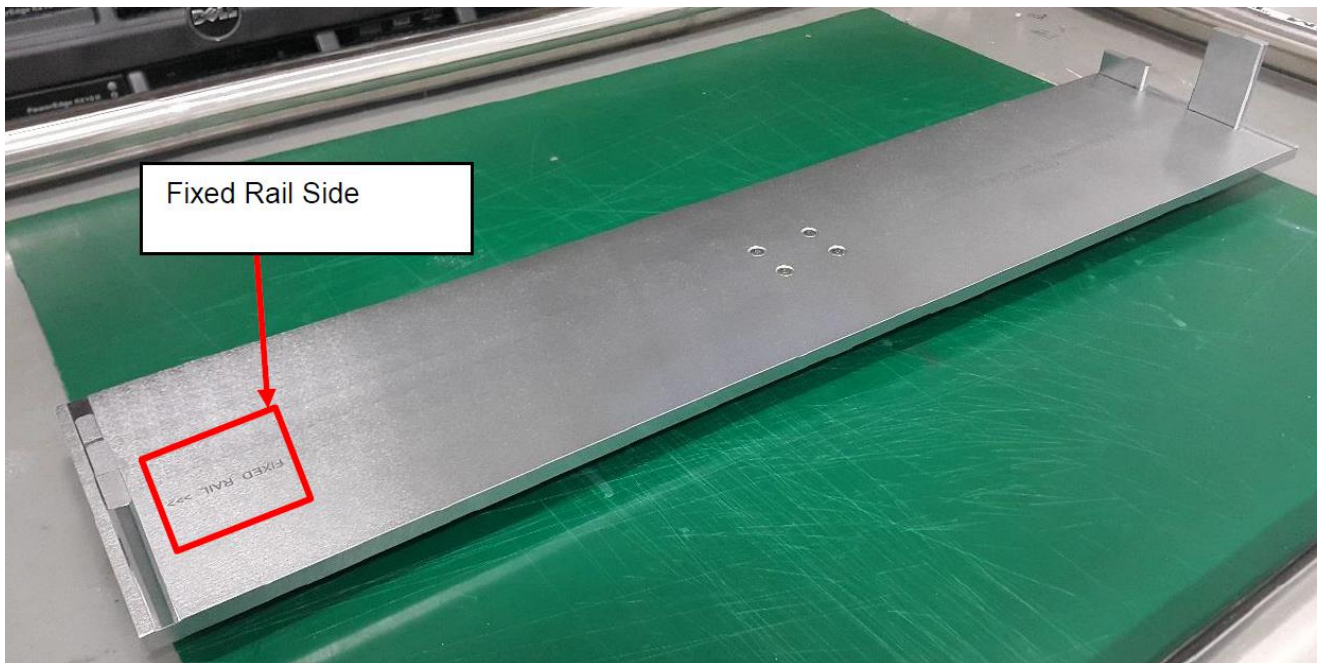

Figure 7 4JACM-A030 Double Clearance Var Mag Filter Jig Assembly
6. Prepare the 4JACM-A030 Double Clearance Var Mag Filter Jig Assembly as shown in the Figure 7.